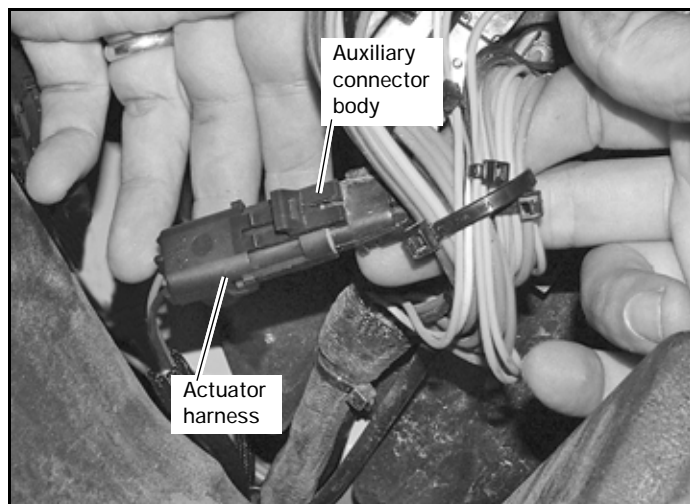

FIG. 5
11. Plug the actuator harness into the auxiliary connector. Fig. 5